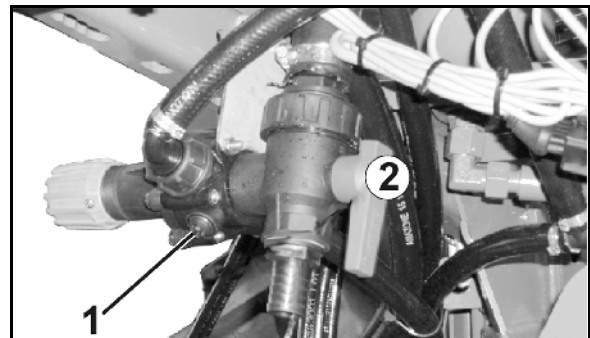

Fig. 144
- o Remove the drain plug (Fig. 144/1) from the pressure relief valve.
- o Open the DUS switchover tap (Fig. 144/2).